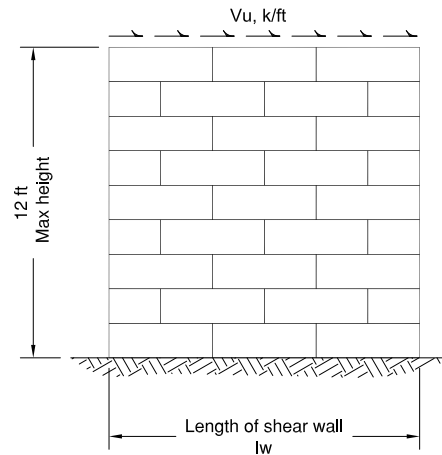

FIGURE 1: ELEVATION
1. Shear wall Figures 1 to 4 to be used in conjunction with Tables 6A and 6B.